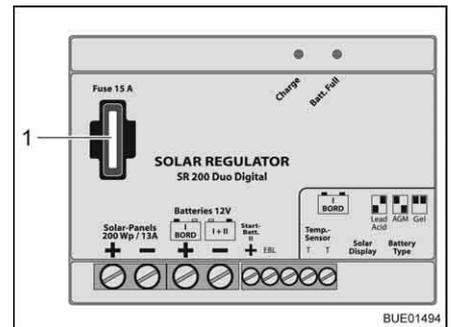

Fig. 118 Solar charge regulator fuse 200 W
- Replace flat fuse 15 A/blue (Fig. 118,1).